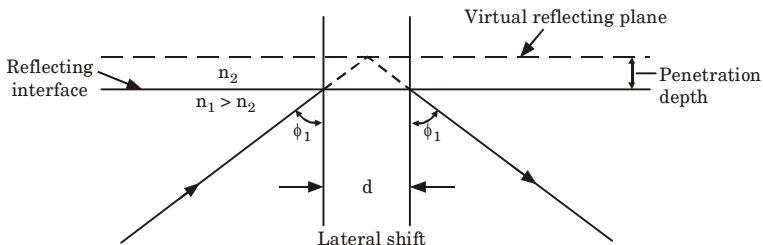

Fig. 1.6.1. The lateral displacement of a light beam on reflection at a dielectric interface (Goos-Haenchen shift).
2. Careful examination shows that the reflected beam is shifted laterally from the trajectory predicted by simple ray theory analysis, as illustrated in Fig. 1.6.1.